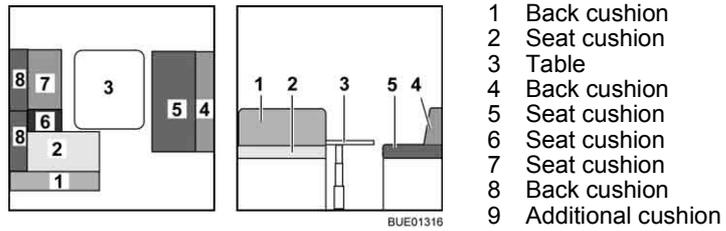

Fig. 136 Prior to conversion
- Convert the table (Fig. 136,3) to a bed foundation (see section 6.10).
- Remove the back cushions (Fig. 136,1, 4 and 8) and lay them aside.